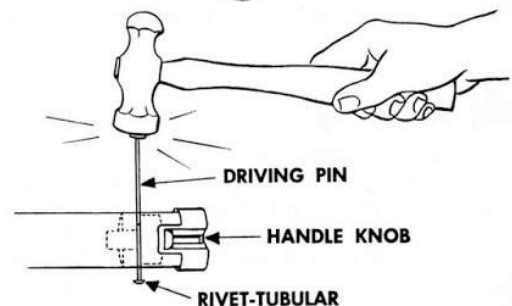

Fig. 5 Remove Rivet
- Drill turnover on Tubular Rivet and knock out with punch. *See Fig. 5.* Remove Handle Knob and Control Lever Assembly.